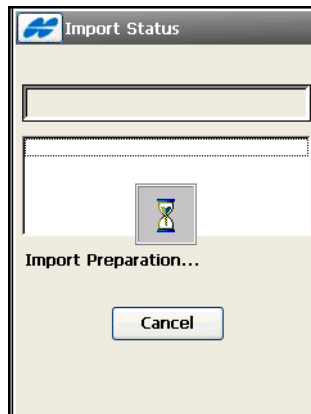

Figure 5-30. Import Preparation
- The ok  button opens the *Import Status* screen for a while to retrieve information on the file contents (Figure 5-30).